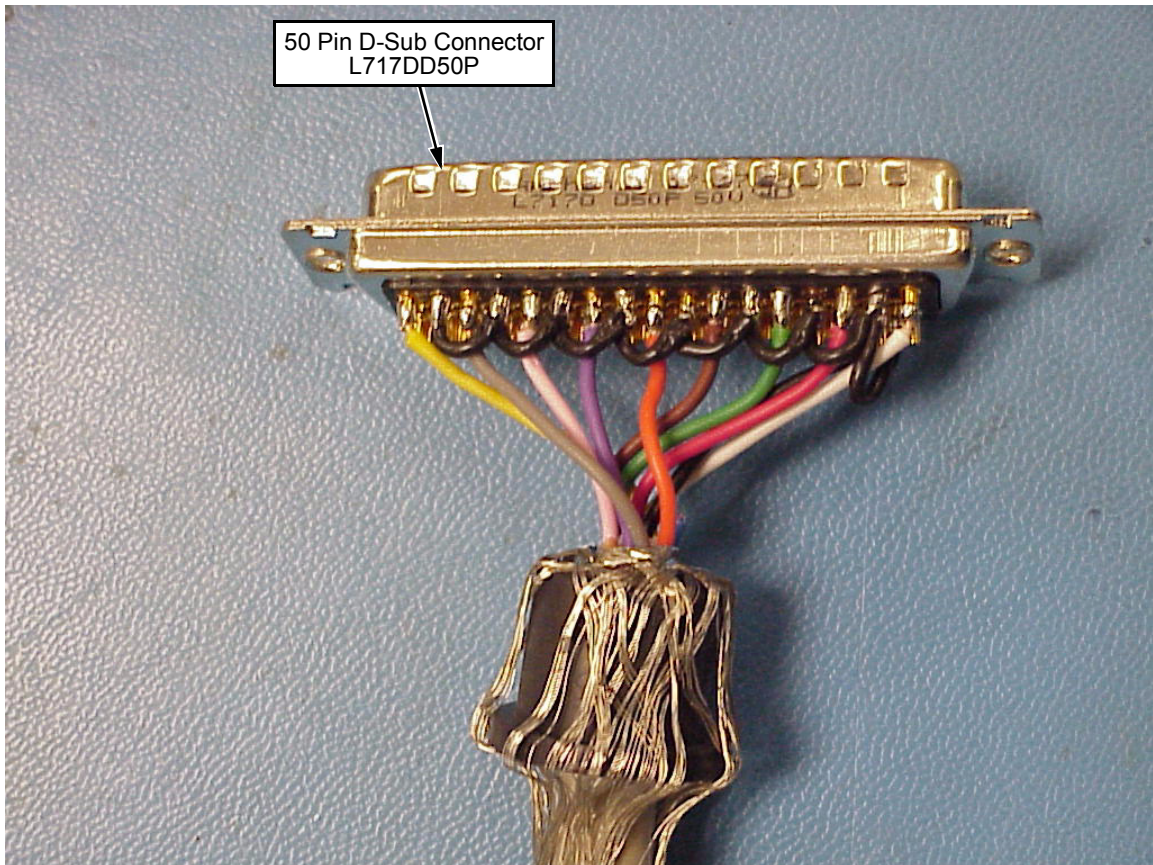

Figure 10. Adding a Connector
5. Add a connector according to your wiring needs. (Figure 10.)